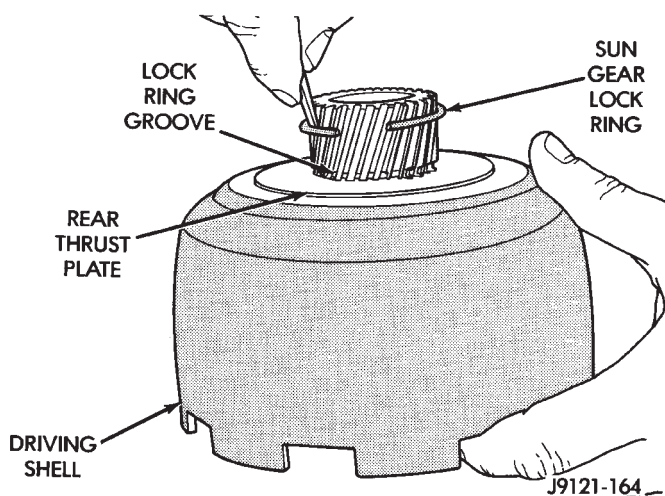

Fig. 156 Installing Sun Gear Lock Ring
(11) Align rear thrust plate on driving shell and install sun gear lock ring. Be sure ring is fully seated in sun gear ring groove (Fig. 156).